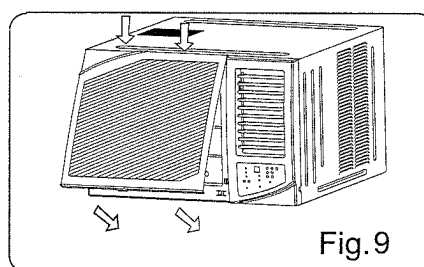

Fig.9
- Hang the front panel on the frame's buckle, then press the front panel into the frame's slot until you hear a click (See Fig9).